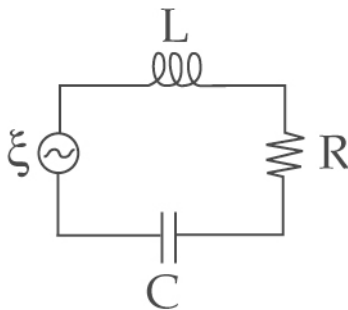

Figure 1
1. Connect the circuit as shown in Figure 1. Connect the Voltage sensor of Channel A across the resistor, and that of Channel B across either the capacitor or the inductor.
3. Set the value of the inductor so that the expected resonance frequency is about 100 Hz. See relation (3) above